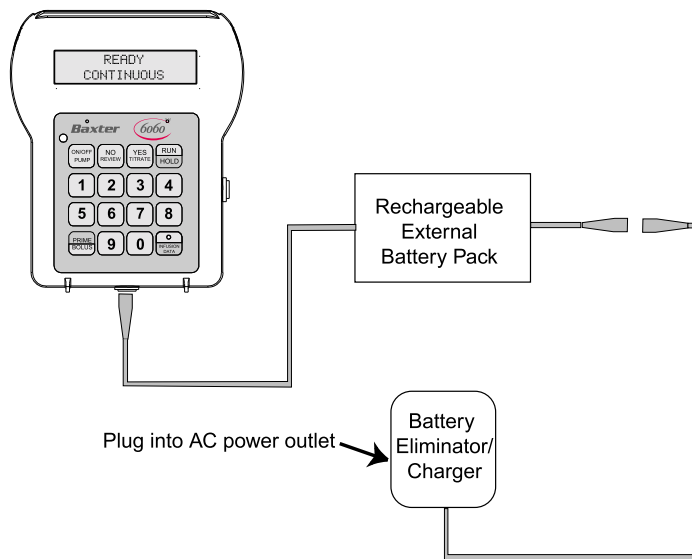

Figure 7-3 Connecting the Battery Eliminator/Charger
Recharge the Rechargeable External Battery Pack by plugging it into the Battery Eliminator/Charger (see Figure 7-3). The Rechargeable External Battery Pack will charge more quickly if it is disconnected from the pump or if the pump is turned off, but it will charge while the pump is operating. See “Using the Battery Eliminator/Charger,” 7-9.
To charge the Rechargeable External Battery Pack while the pump is running, connect it to the Battery Eliminator/Charger as shown in Figure 7-3.
- To connect the Battery Eliminator/Charger, insert its connector into the pump's **EXT POWER** connector. (See Figure 7-3).